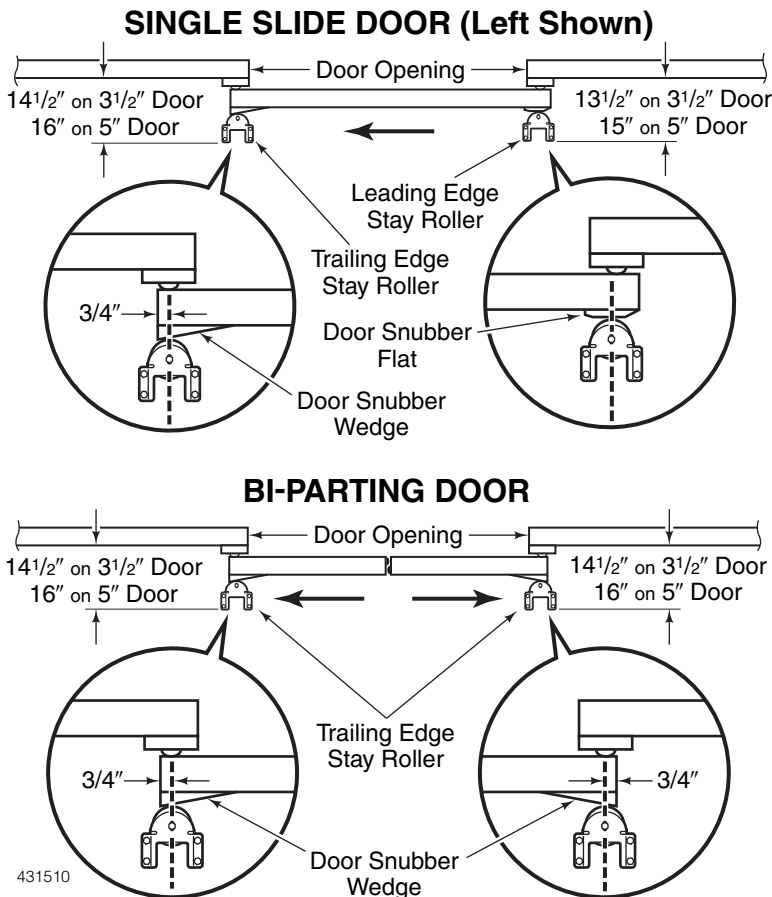

Figure 11
3. Be sure each Stay Roller Lock Nut is centered in the adjustment slot. Note the distance from the wall for *your* door size and type. See Figure 11. With Bi-Parting door(s) fully closed, position the center of the Trailing Edge Stay Roller  $3/4"$  in from the end of the Door Snubber Wedge. For Single Slide Doors, center the Leading Edge Stay Roller on the flat spot on the Door Snubber.